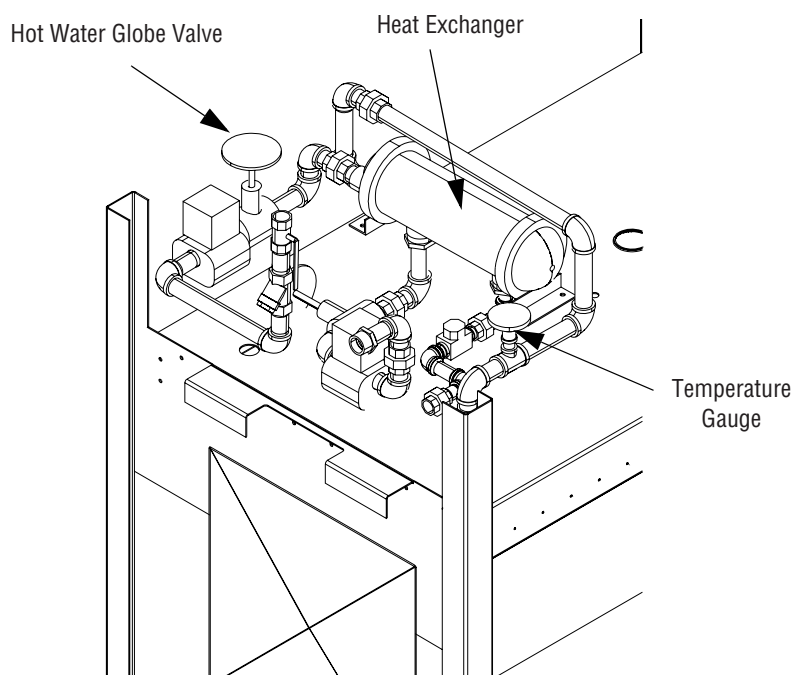

Figure 6-5. Heat Exchanger Temperature Controls
1. Completely close steam throttling valve and fully open building hot water supply throttling valve (see Figure 6-5).